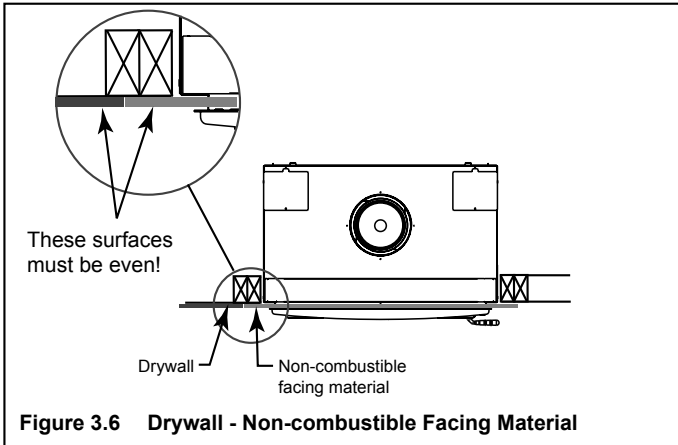

Figure 3.6 Drywall - Non-combustible Facing Material
The fireplace should be positioned so the face of the non-combustible material on the fireplace will be flush with the face of the drywall on the walls. See Figure 3.6.
- Metal strips must extend beyond the front and sides of the fireplace opening by at least 2 in. (51 mm). See Figure 3.6.
- Protect the front of a platform elevated above the hearth extension with metal strips (not included with fireplace) per Figure 3.6. See Section 7 for hearth extension instructions.